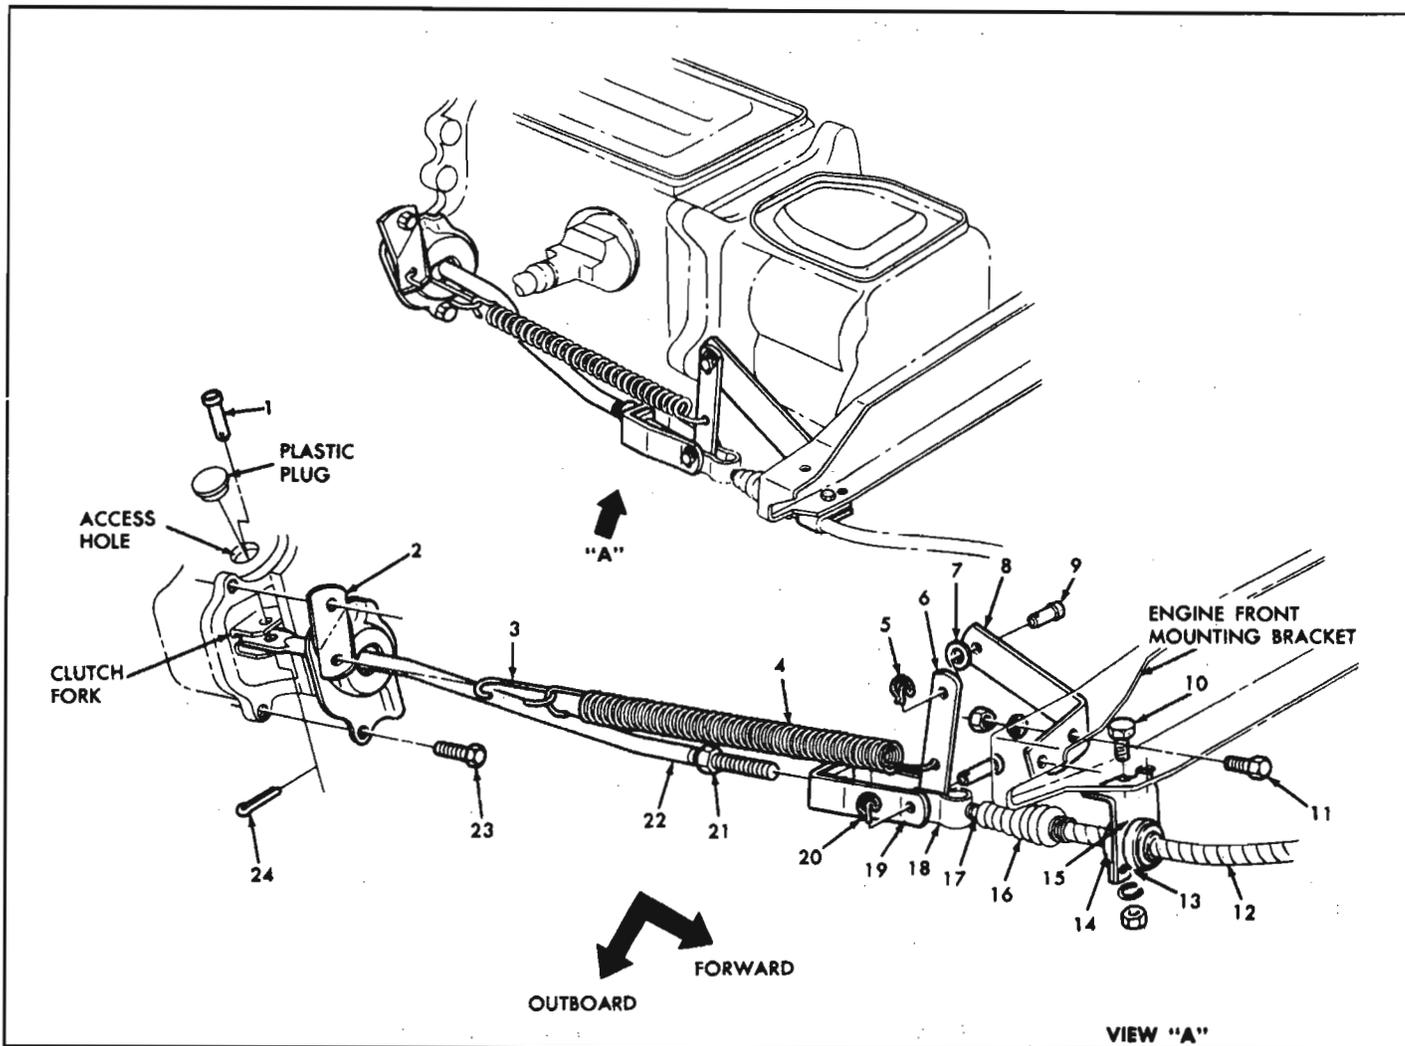

Fig. 6B-12—Clutch Linkage
1. Remove retainer clip from each end of clutch cable clevis (20) (fig. 6B-12) and (16) (fig. 6B-13).